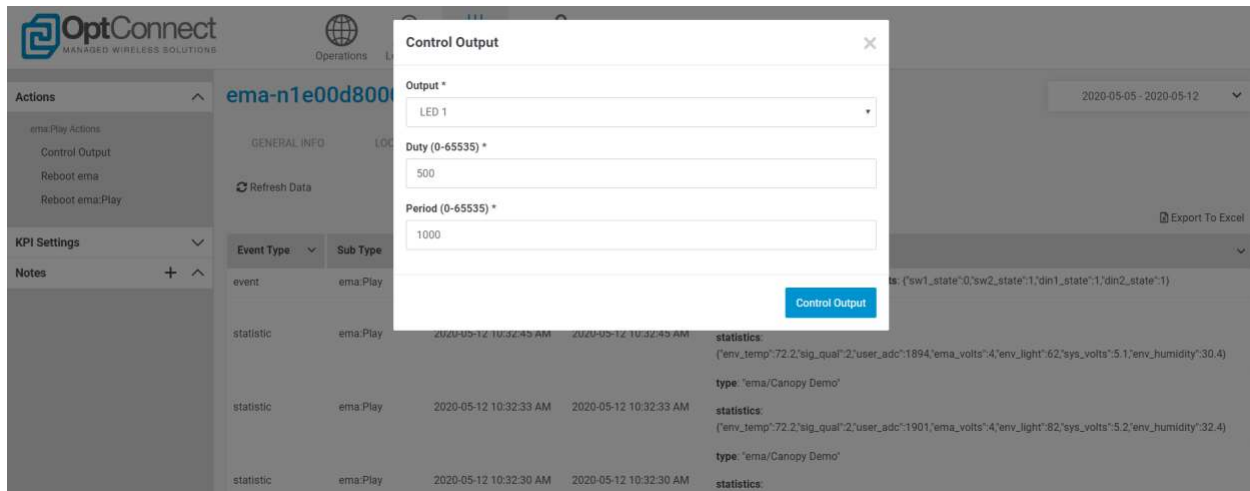

Figure 43
- Click on the “Control Output” button to open the Control Output window. Select “LED 1” from the Output drop down, enter **500** for Duty, and enter **1000** for Period as shown in *Figure 43*. This will command ema:Play to control it’s LED 1 (ref des D18) to flash at a frequency of ~2 Hz.